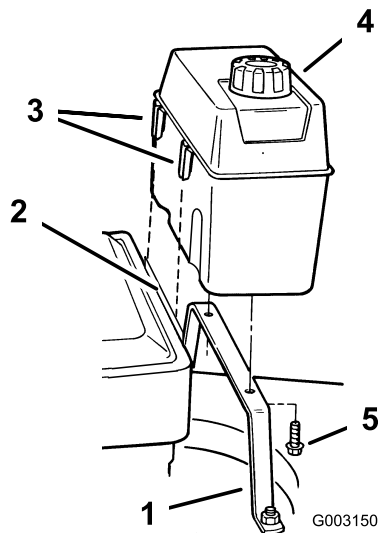

Figure 4
- Start the 2 self-tapping screws into the bottom of the fuel tank and then remove the screws (Figure 4).
- Self-tapping screw (2)
- Hook the plastic clips on the front of the fuel tank onto the fuel tank bracket (Figure 4).
- Secure the fuel tank to the tank base with the 2 self-tapping screws (Figure 4). **Do not overtighten the screws.**